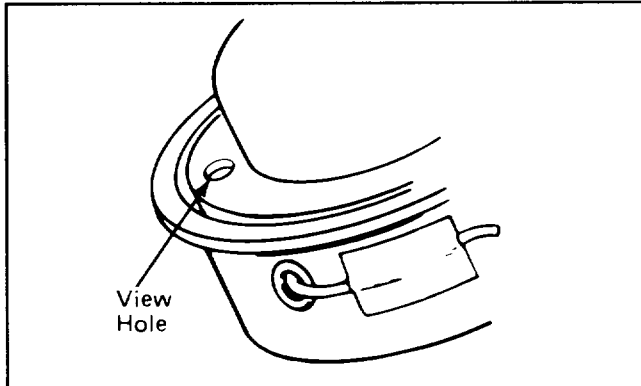

Figure 8
1. To avoid line tangle during shipment, the tip of the monofilament line has been taped to the head assembly. The tape must be removed before operation (Fig. 8).
2. A view hole in the spool cap is provided to show how much line remains on the spool without removing spool (Fig. 8). (View hole not included on model 51255.)